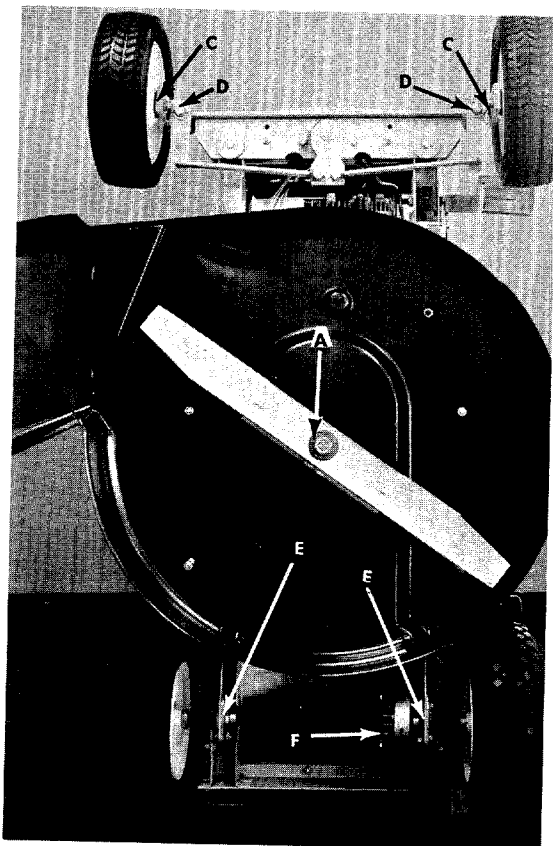

FIGURE 17. LUBRICATION
- B. **Steering Gears.** Lubricate with multi-purpose automotive type grease once a season. See figure 17.
- C. **Front Wheel Bearings.** Remove the front axle bolts and coat the axle with a multi-purpose automotive type grease and reassemble once a season. See figure 17.
- D. **King Pins.** Lubricate the king pins after every 25 hours of operation with SAE 30 oil. Wipe up excessive oil with a rag. See figure 17.
- E. **Rear Axle Bearings.** Lubricate the rear axle bearings after every 25 hours of operation with SAE 30 oil. Wipe up excessive oil with a rag. See figure 17.
- F. **Chain.** Remove the chain once each season, clean in kerosene, dry and lubricate with a rag saturated in SAE 30 oil. See figure 17.
- Step 5. Lubricate all lubrication points indicated in figure 17; then wipe the entire machine with an oiled rag in order to protect the surfaces.